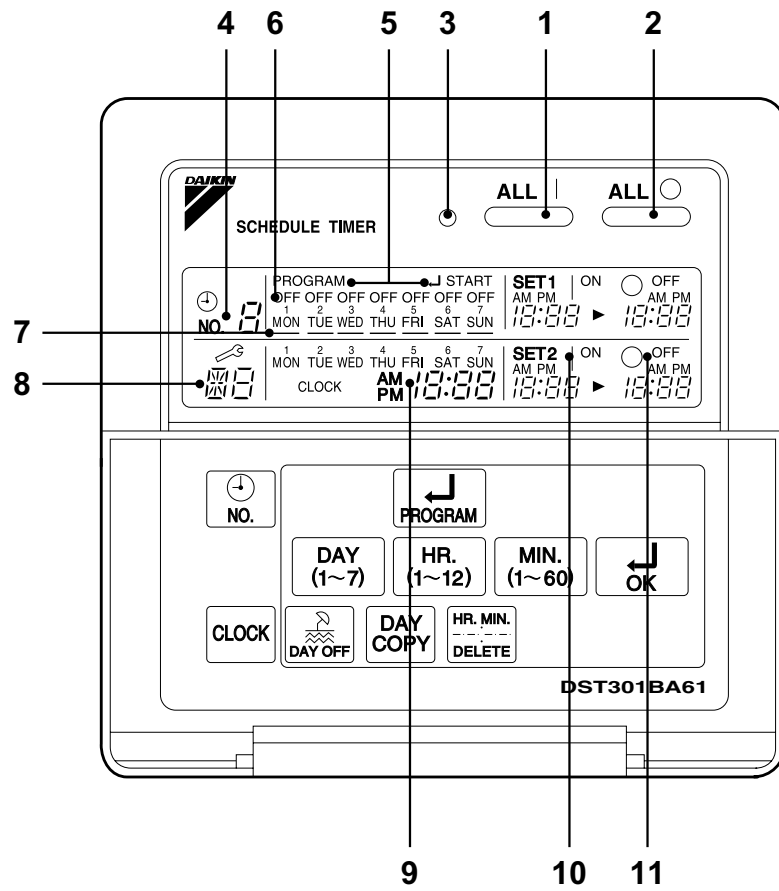

Fig. 1
4.6.3 Names and Functions of Operating Section (Fig. 1, 2)